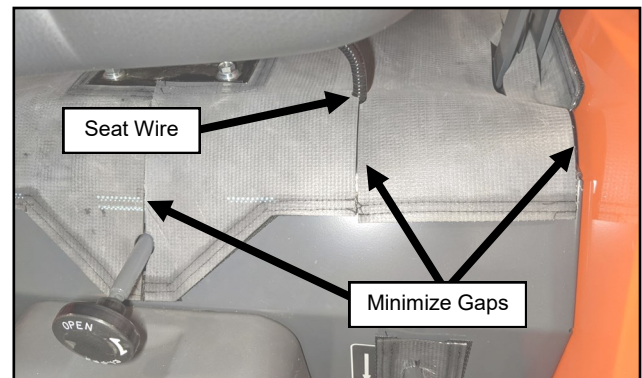

Fig. 19.8a (Secure Front of Filler)
**19.8** Position and secure the front of the filler. See Figures 19.8a and b. Be sure to minimize gaps.